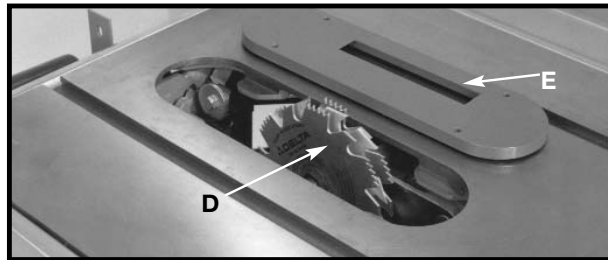

Fig. 56
2. Attach the dado head set (D) Fig. 56, to the saw arbor.
▲ CAUTION THE ACCESSORY DADO HEAD SET TABLE INSERT (E) FIG. 56, MUST BE USED IN PLACE OF THE STANDARD TABLE INSERT.